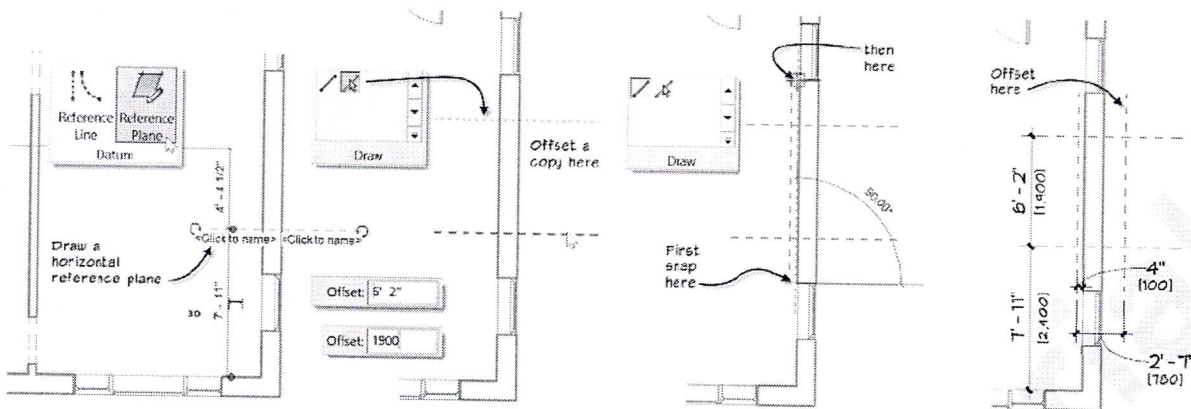

FIGURE 4.61 Create two horizontal and two vertical reference planes to frame out the fireplace footprint (dimensions for reference only)
- ⇒ Edit the Temporary Dimension from the bottom horizontal wall to: **7'-11" [2400]** (see the left side of Figure 4.61).
4. Click to create the new reference plane (second panel from the left in Figure 4.61).
⇒ Snap to the endpoint of the upper window on the inside edge of the wall (third from the left in Figure 4.61).
⇒ Offset the reference plane you just drew to the outside of the house (see the right side of Figure 4.61).